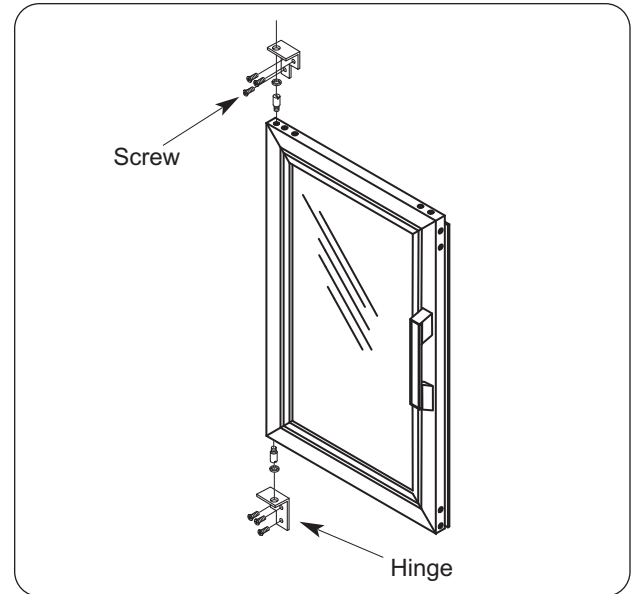

Figure 5. Reversible Access Door - Glass Door
1. Remove screws securing door to hinges. (See Figure 5.)